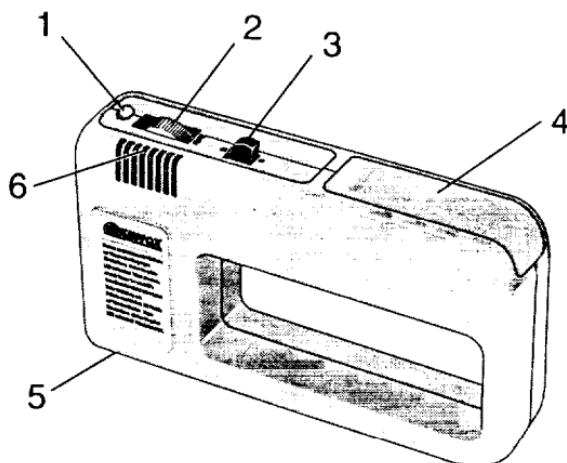

Fig. 1
Legend (see Fig. 1)
1. Open battery compartment 4 (Fig. 1).
1. Set the selector switch to "M" for metal detection or "V" for voltage detection 3 (Fig. 1).
2. Switch on the detector using adjuster wheel 2 (Fig. 1).
3. Rotate the adjuster wheel until LED 1 (Fig. 1) illuminates and the audio signal sounds (Setting M = continuous audio signal, setting V = intermittent audio signal)
- When finished using the detector, switch it off using adjuster wheel 2 (Fig. 1) to preserve the battery.